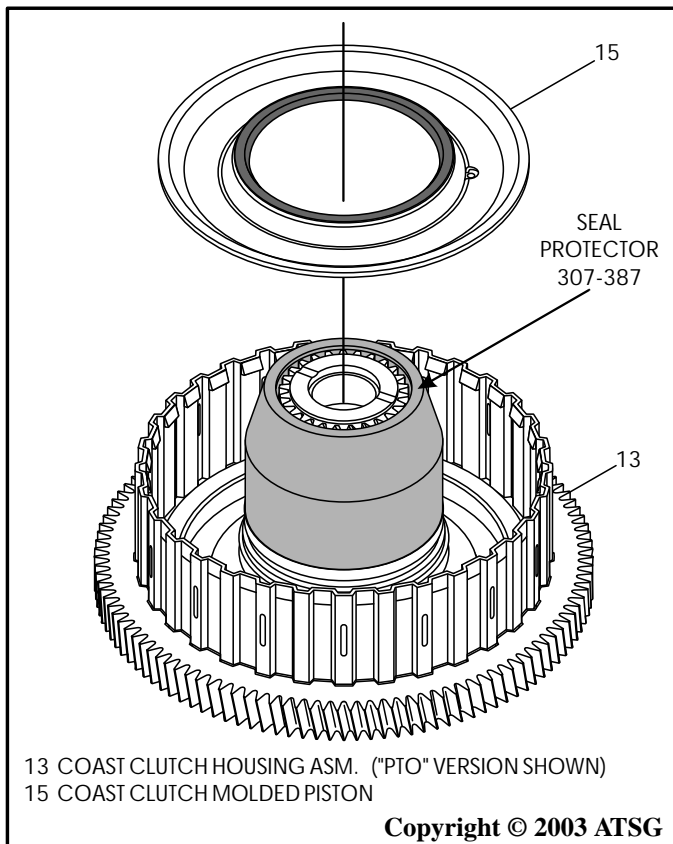

Figure 151
6. Place the coast clutch housing on a flat work surface, as shown in Figure 151.
7. Install lip seal protector 307-387 onto the coast clutch housing, as shown in Figure 151.
8. Lubricate both seals on the new coast clutch piston and install piston into the coast clutch housing, as shown in Figure 151.